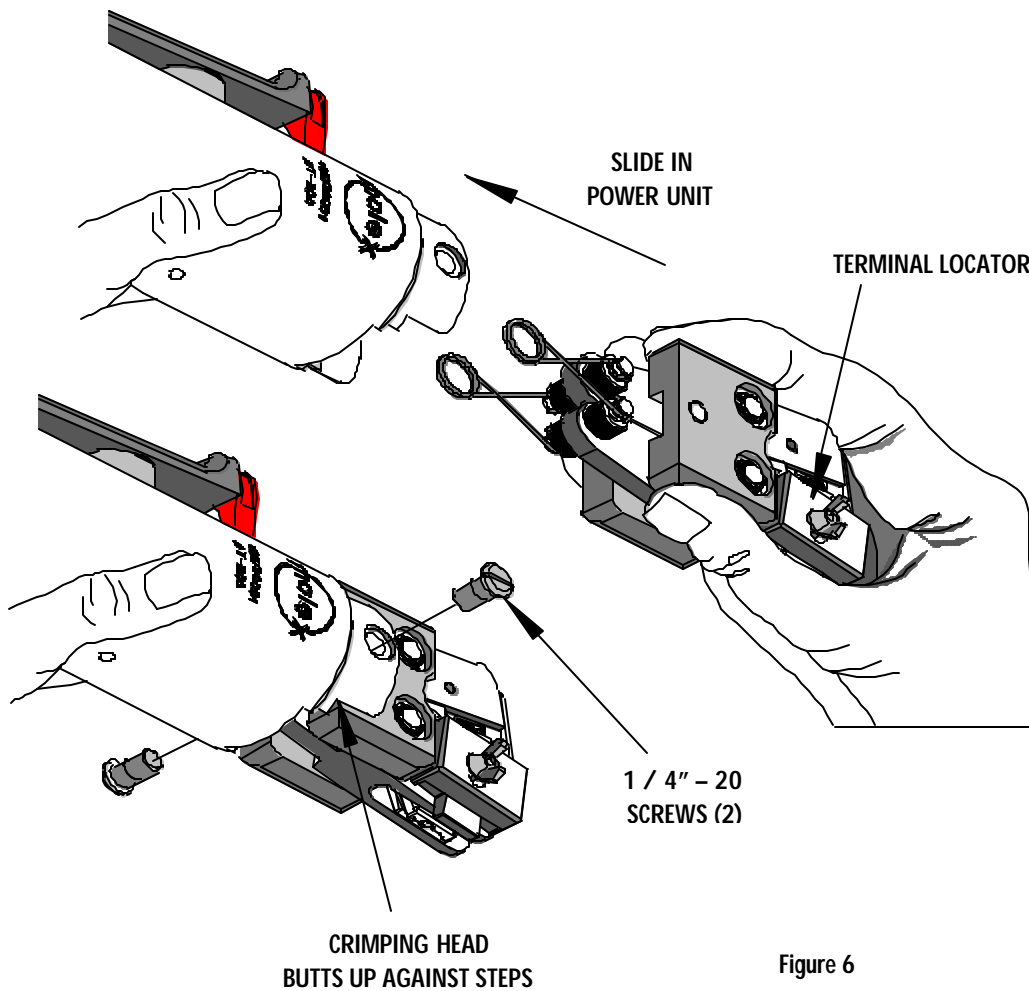

Figure 6
4. To replace the crimp tool head, hold power unit in left hand as shown in Figure 6.
5. Grasp crimp tool head in right hand with terminal locator facing you. Slide crimp tool head assembly into body of power unit until side plates of the crimp tool head butt against steps in the power unit. Be sure jaw return springs clear the cam in power unit (See Figure 6).